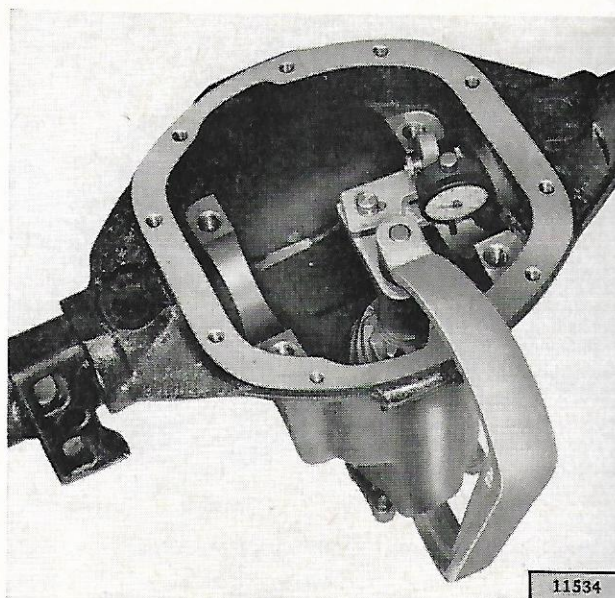

FIG. 11-16—CHECKING PINION ADJUSTMENT
i. Seat the gauge mount firmly on the pinion head and swing the dial indicator through the differential bearing bore as shown in Fig. 11-16. The lowest reading indicates the center of the differential bearing bore. At this point the dial indicator should read the same as mark etched on the pinion head. If the reading does not agree, add or remove shims behind the bearing cup until the readings agree.
a. With the differential positioned as shown in Fig. 11-16, tap the differential lightly on a flat surface so the differential gears settle into proper position.